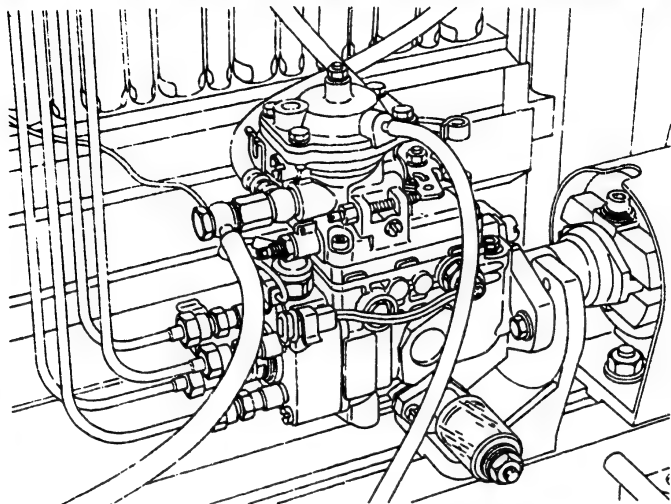

Fig. 50 Connecting the air pipes
1. Connect the air pipes to the injection pump using the pressure control kit (0 684 200 610) as shown in Fig. 50.